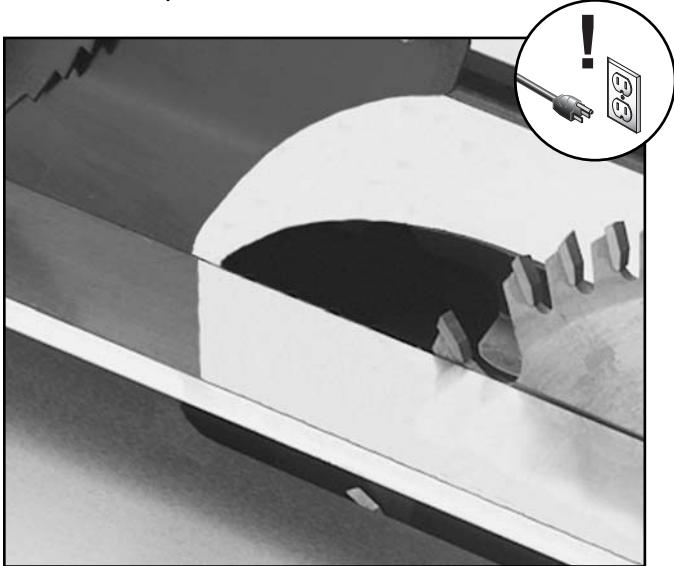

Figure 39. Checking alignment of blade guard.
9. Next, set a straightedge against the face of the saw blade and the blade guard/splitter as shown in **Figure 39**. If the blade guard/splitter is properly aligned, please skip ahead to the next section; otherwise, continue with the next step.